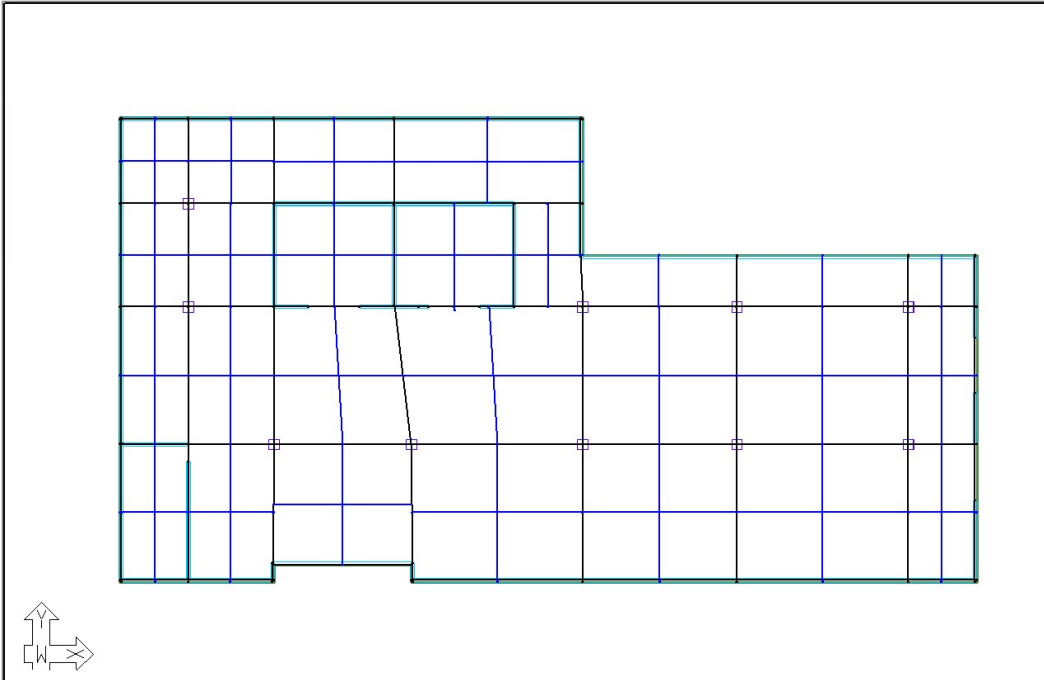

Figure 4.1-6
- Click the **Create Middle Strips** button. We can now see the southernmost middle strip extends to the slab edge, as shown in **Figure 4.1-6**.